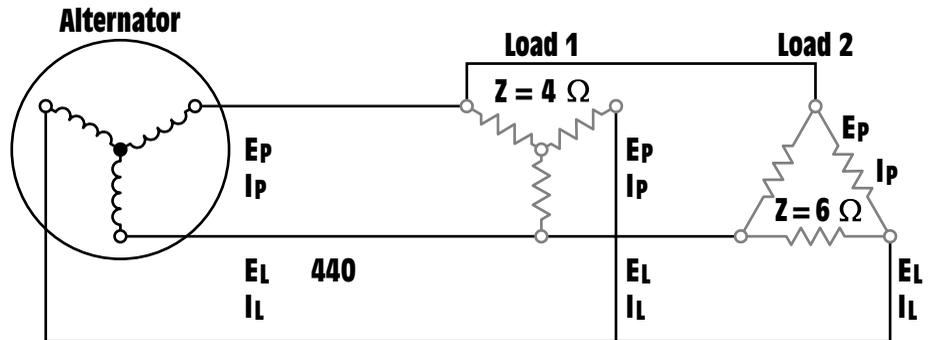

Figure 12-19 Computing three-phase values using a wye-connected source and two three-phase loads (Example 3 circuit).
The phase windings of an alternator are connected in wye. The alternator produces a line voltage of 440 V, and supplies power to two resistive loads. One load contains resistors with a value of 4Ω each, connected in wye. The second load contains resistors with a value of 6Ω each, connected in delta, *Figure 12-19*. The following circuit values will be found.
3. Refer to the circuit shown in Figure 12-19 to answer the following questions. It is assumed that the alternator has a line voltage of 560 V. Load 1 has an impedance of 5Ω per phase and load 2 has an impedance of 8Ω per phase. Find all missing values.